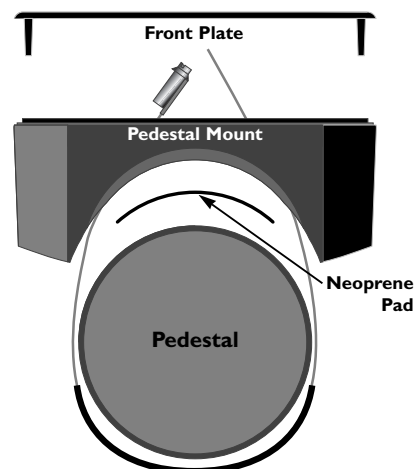

Fig 4.5 - Attaching clamp using band clamps
5. Thread the band clamps through the pedestal mount (using the appropriate slots to fit the pedestal) around the pedestal and back in through the corresponding slot on the other side of the mount (Fig 4.5).